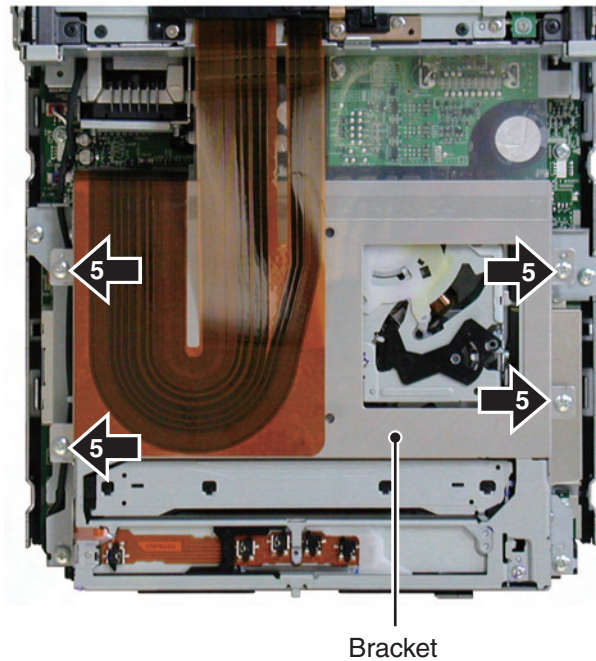

Fig.2
- ➡ **5** Remove the four screws. (Fig.2)
Disconnect the connector and then remove the Bracket. (Fig.2)